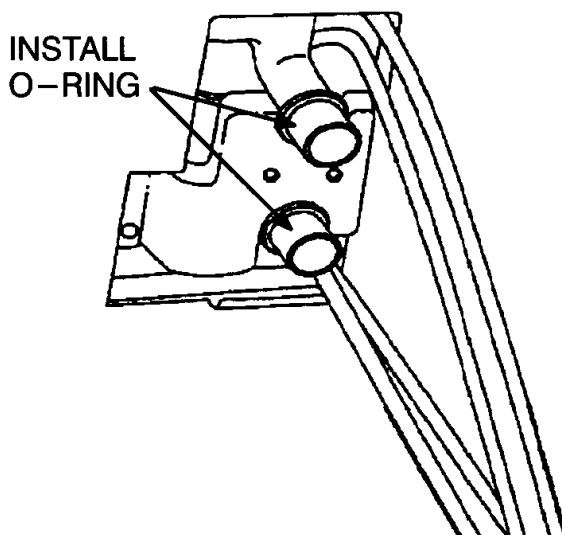

Figure 9 Install O-Rings on Evaporator Tubes
1. Lubricate new O-rings with MINERAL OIL. Remove caps or plugs and install new O-rings on the inlet and outlet tubes on the evaporator (Figure 9).